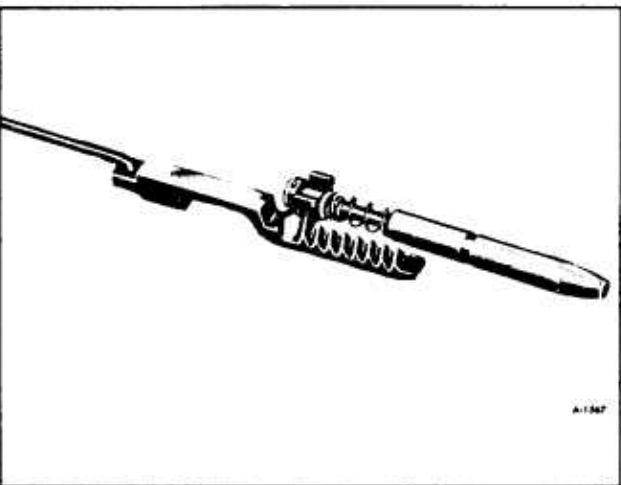

Figure 85—Bolt and Rack Assembly
4. Assemble the bolt to the cross-over arm of the rack. (figure 85).